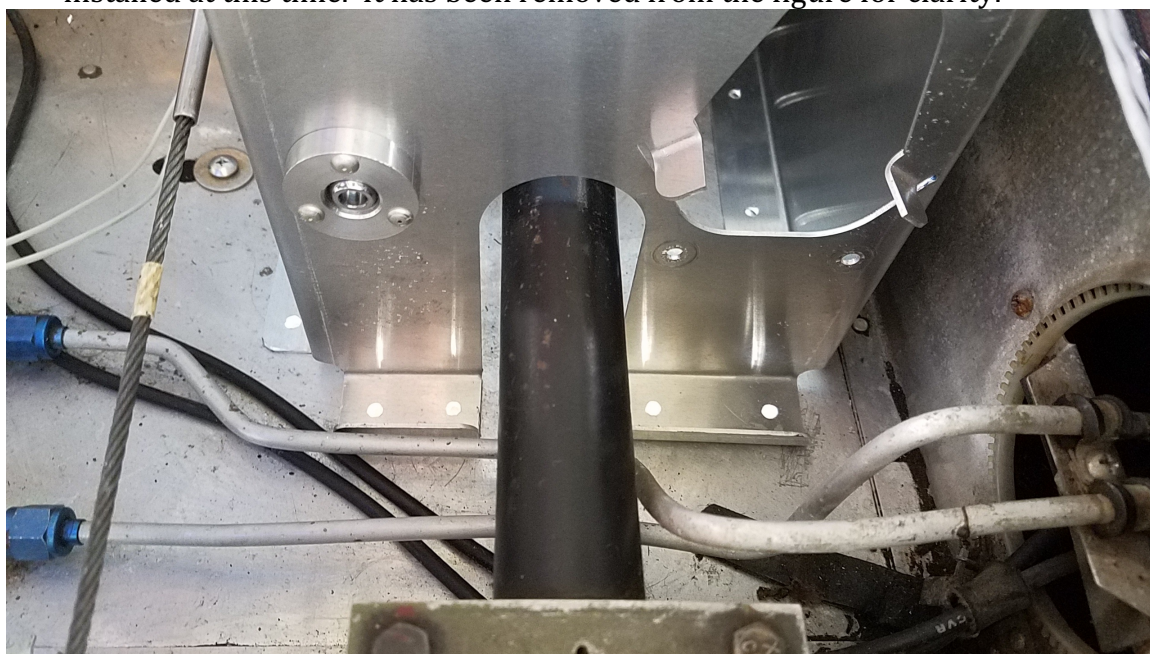

Figure 2-7
- 1.9. Position the pitch bracket assembly so that the flap tube cutout is centered over the flap tube and the left face is parallel to the centerline of the aircraft as shown in Figure 2-7. This will establish the fore/aft position of the pitch bracket assembly. Note that the PA-32 bellcrank (P/N 7200-108) should be installed at this time. It has been removed from the figure for clarity.